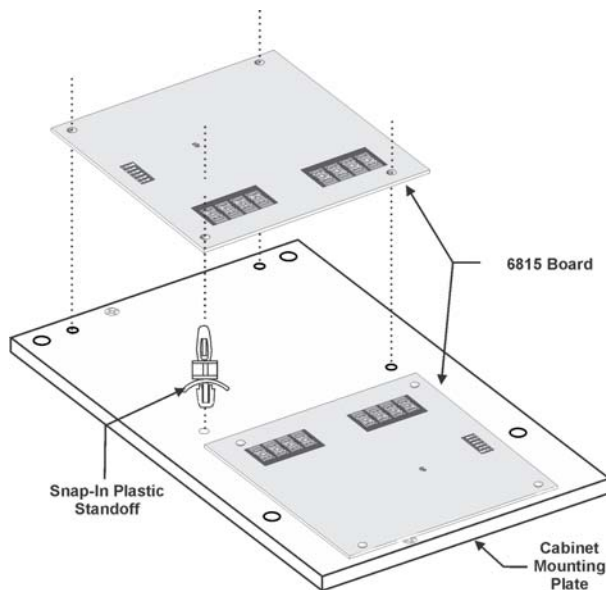

Figure 1.1 Standoff Installation and 6815 Board Mounting
3. If mounting the 6815 in a 5815RMK or SK-NIC-KIT orientate the 6815 board(s) as shown in Figure 1.1 and snap into place on the plastic standoffs.